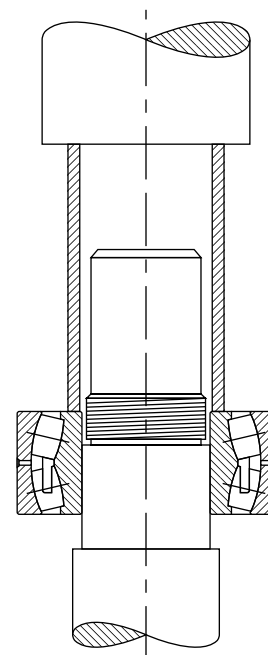

Fig. D-6. Arbor press method.
- An alternate method of mounting, generally used only on smaller size bearings, is to press the bearing onto the shaft or into the housing. This can be done by using an arbor press and a mounting tube as shown in fig. D-6.